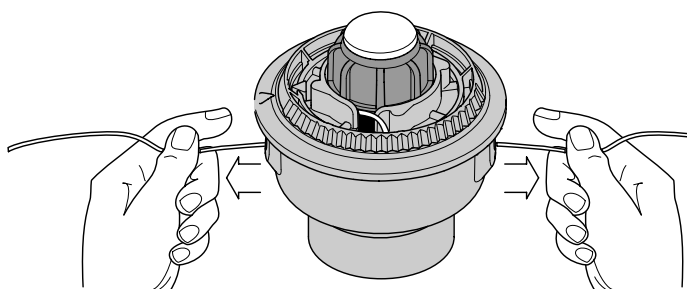

Fig. 46
9. If winding the line becomes difficult or if the line jams, pull the ends of the line from the spool (Fig. 46). Continue winding the inner reel counterclockwise until approximately 6 inches of line is left.
If the SpeedSpool® does not release line correctly, pull the ends of the line firmly from the spool (Fig. 46). If this does not release the line, follow the *Cleaning the SpeedSpool®* instructions.